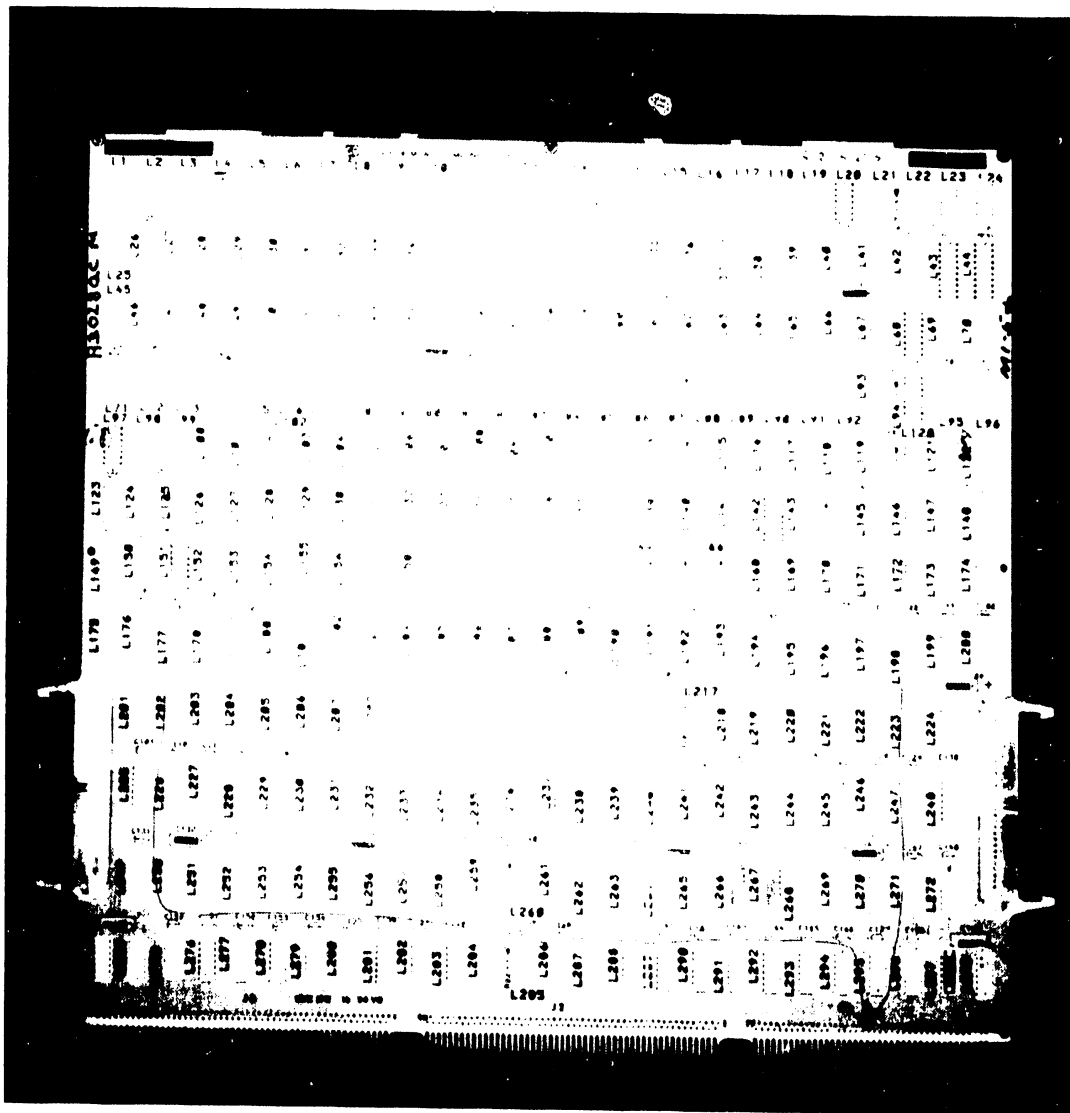

Figure 5-6. 210-7600 A Bus Board
1. Remove the A Bus board (figure 5-6) from Motherboard slot #2 in the manner described in 5.3.5.3.1. (There are no cables connected to the A Bus.)